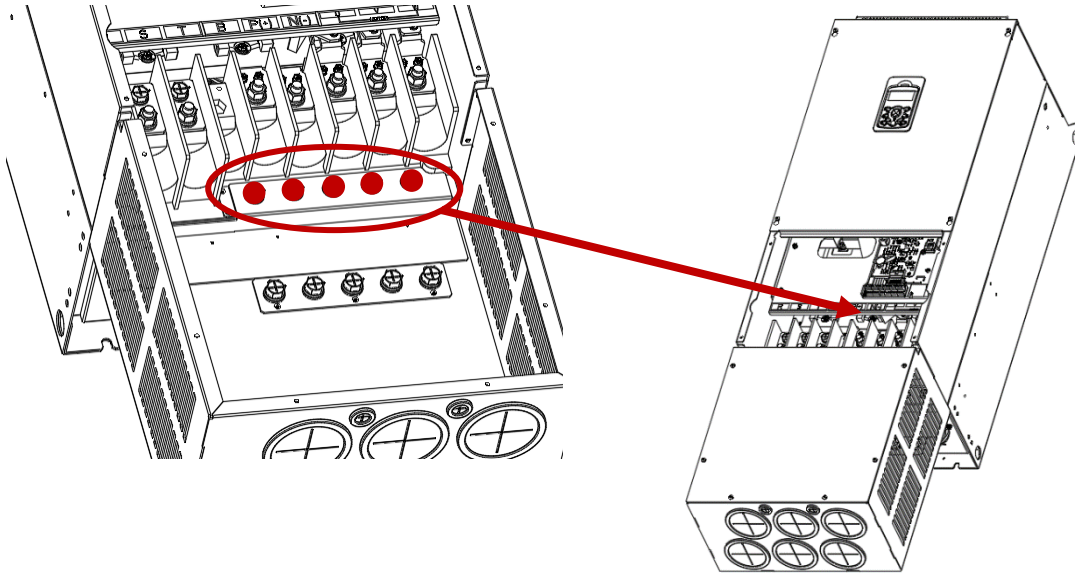

Figure 11. Install Conduit Option
- ② Install screws in locations shown in Figure 11.